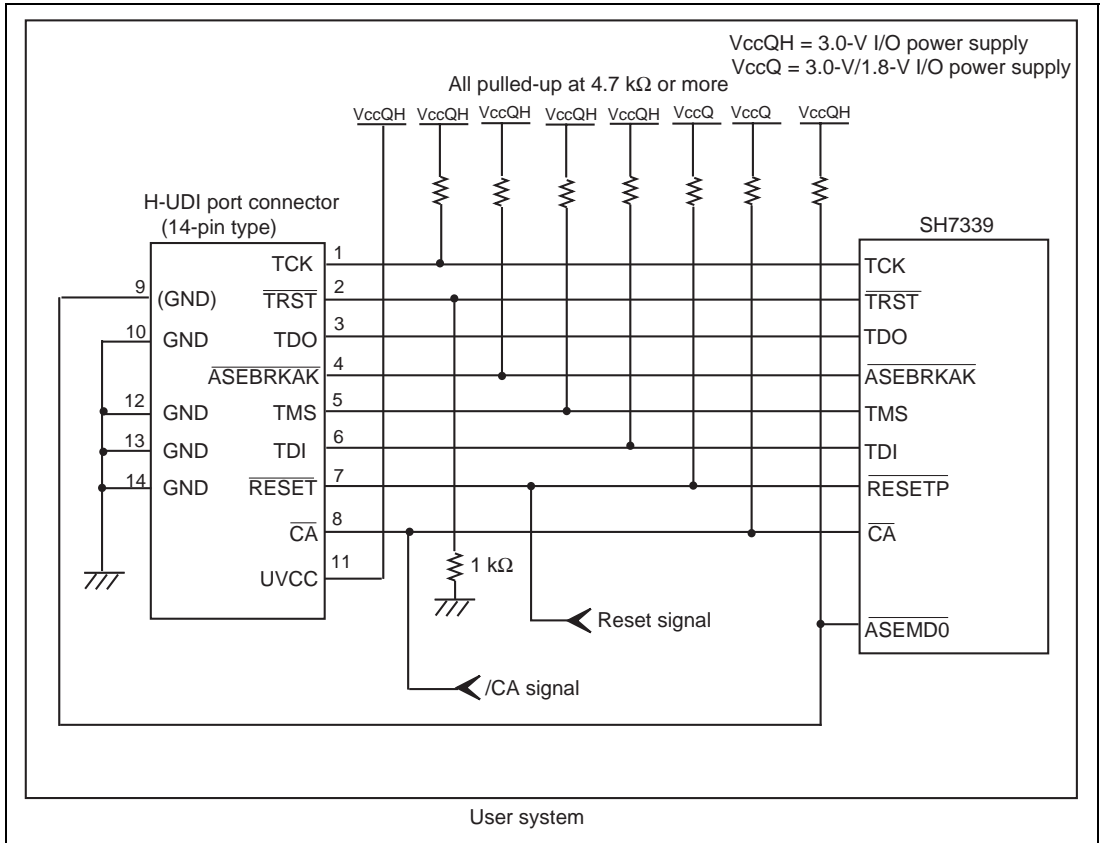

Figure 1.4 Recommended Circuit for Connection between the H-UDI Port Connector and MPU when the Emulator is in Use (14-Pin Type UVCC Connected)
Figure 1.4 shows a recommended circuit for connection between the H-UDI and AUD port connectors (14 pins) and the MPU when the emulator is in use.
- (1) When the emulator is used: /ASEMD0 = 0
- (2) When the emulator is not used: /ASEMD0 = 1Figure 1.4 shows an example of a circuit that allow the /ASEMD0 pin to be GND (0) whenever the emulator is connected by using the user system interface cable. When the /ASEMD0 pin is changed by switches, etc., ground pin 9. Do not connect this pin to the /ASEMD0 pin.
8. Since the H-UDI and the AUD of the MPU operate with the VccQH, supply only the VccQH to the UVCC pin. Make the emulator's switch settings so that the VccQH will be supplied (SW2 = 1 and SW3 = 1) (as shown in figure 1.4).
When the circuit is connected as shown in figure 1.4, the switches of the emulator are set as SW2 = 1 and SW3 = 1. For details, refer to section 3.8, Setting the DIP Switches, in the Debugger Part of the SuperH™ Family E10A-USB Emulator User's Manual.